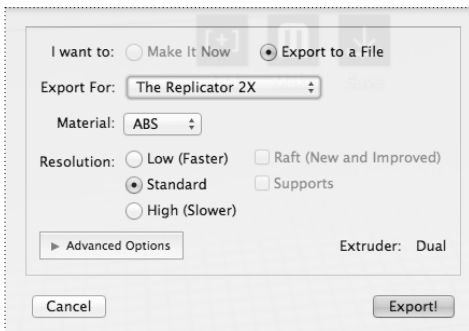

Fig. 9.1
8. In the Make dialog, select the Export to File radio button. [Fig. 9.1]